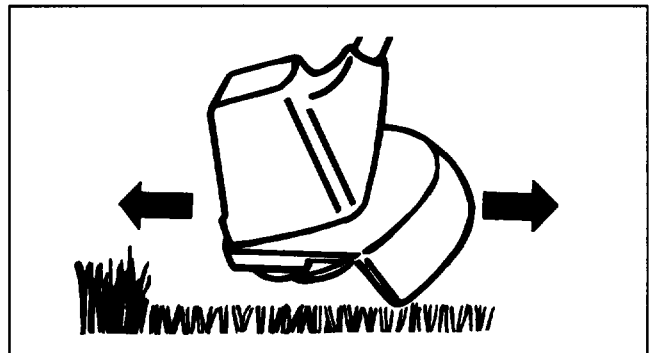

Figure 11
4. Slowly move unit into and out of area being cut, maintaining unit at desired cutting height. This can be either a forward-backward or side-to-side motion as indicated in Figures 11 & 12.